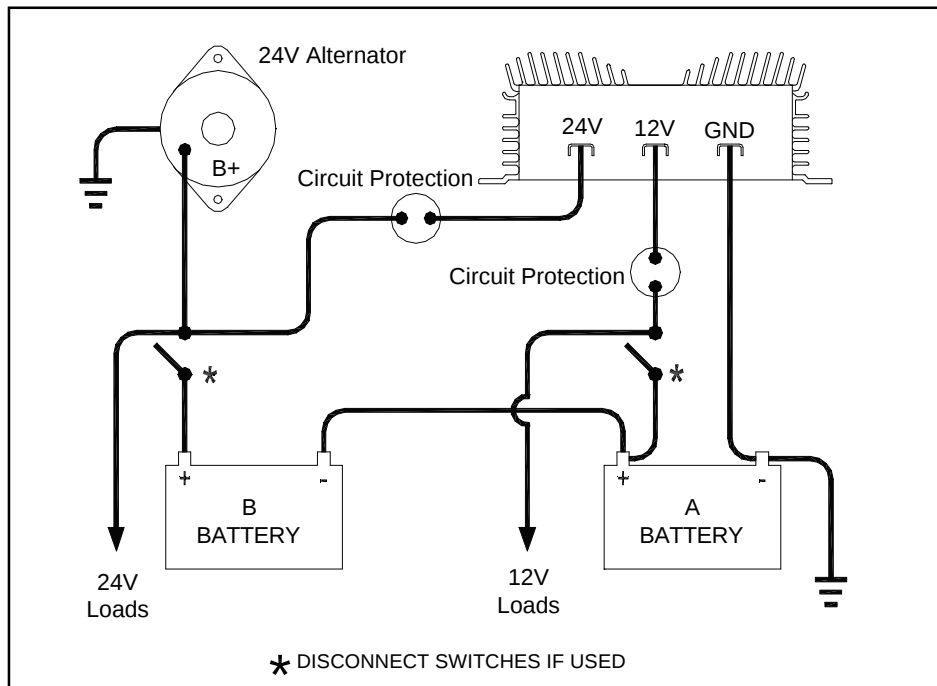

Figure 1: Equalizer connection diagram.
5. If a battery-disconnect switch is required with an Equalizer application, two disconnect switches should be used (see page 2, figure 1). Electrically, place one disconnect between the "A" battery "POS" and the 12V connections, including the Equalizer 12V terminal and 12V loads. Place the second disconnect between the "B" battery "POS" and the Equalizer-to-alternator connection.